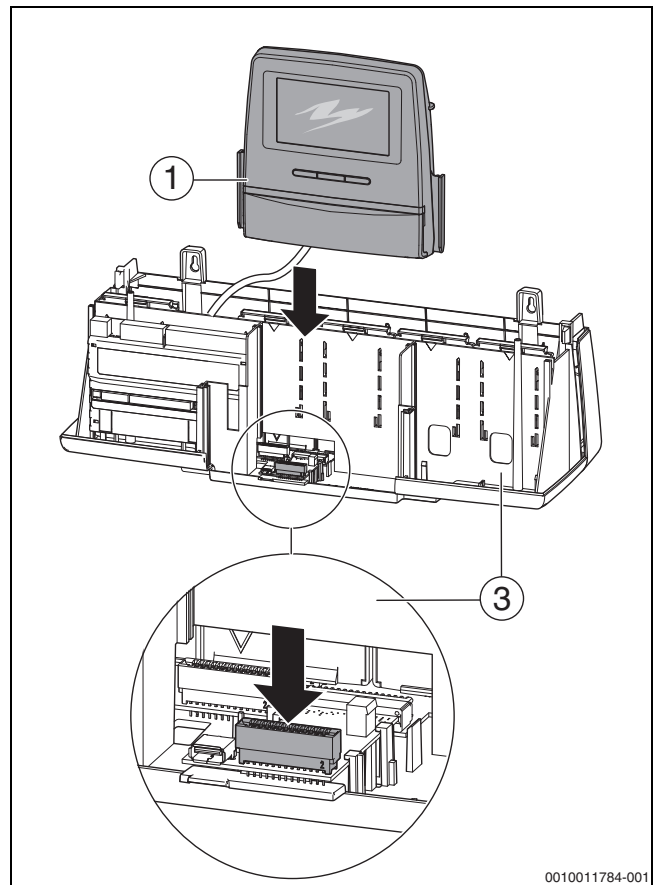

Fig. 35 Plug the user interface into the base of the casing
- Secure the control unit cover hood [2] by tightening the screws (→ Figure 35, page 30).